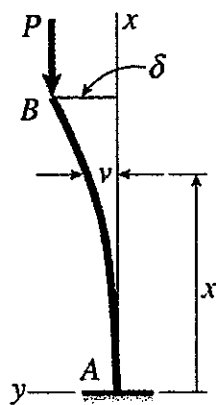

Fig. 1
- Fig. 1 shows a fixed-free column of height  $L$  with flexural rigidity  $EI$ . Derive the following: